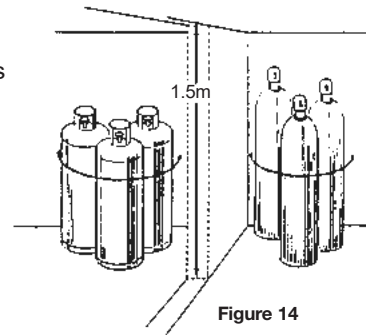

Figure 14
- Do not store oxygen cylinders within 20 feet of cylinders containing flammable gases unless they are separated by a partition at least 5 feet high and having a fire-resistance rating of at least 30 minutes (Figure 14).